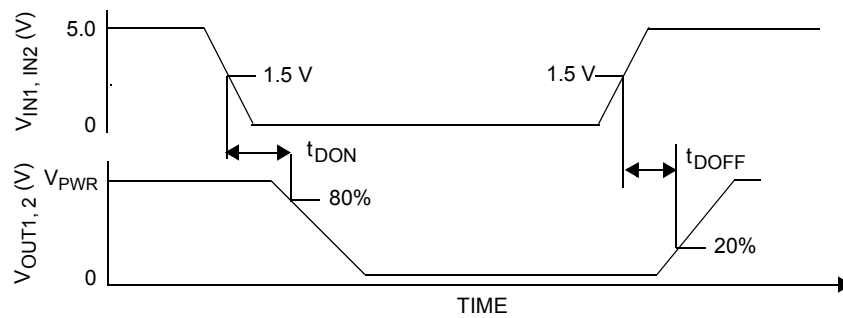

Figure 4. Output Delay Time
22. \* Output Delay is the time duration from 1.5 V on the IN1 or IN2 input signal to the 20% or 80% point (dependent on the transition direction) of the OUT1 or OUT2 signal. If the output is transitioning HIGH-to-LOW, the delay is from 1.5 V on the input signal to the 80% point of the output response signal. If the output is transitioning LOW-to-HIGH, the delay is from 1.5 V on the input signal to the 20% point of the output response signal. See Figure 4, page 9.